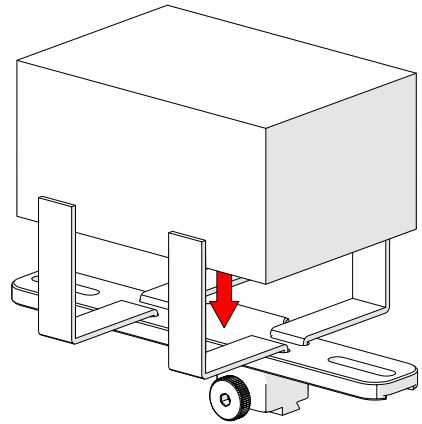

Fig. 193 - Place preamp and wrap velcro
2. Centre and place the preamp on the bracket wrapping the velcro around the preamp (*Fig. 193*).